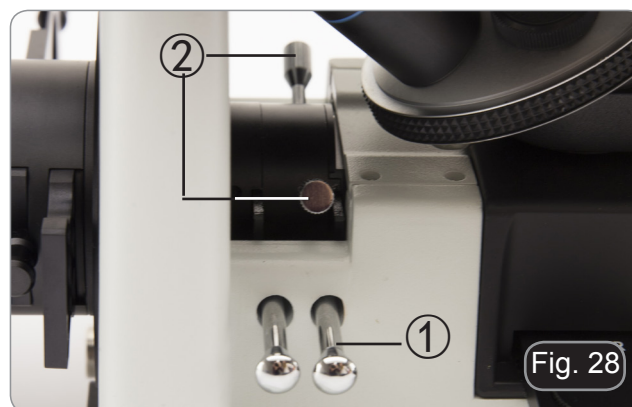

Fig. 28
Raise eye shields and observe at the microscope placing eyes to the shields, avoiding external light to disturb the observation. (Fig. 28)
2. Pull the field diaphragm lever ① to fully close the field diaphragm. (Fig. 28)
3. Rotate the two centering screws ② to bring the bright spot in the center of the field of view.(Fig. 28)